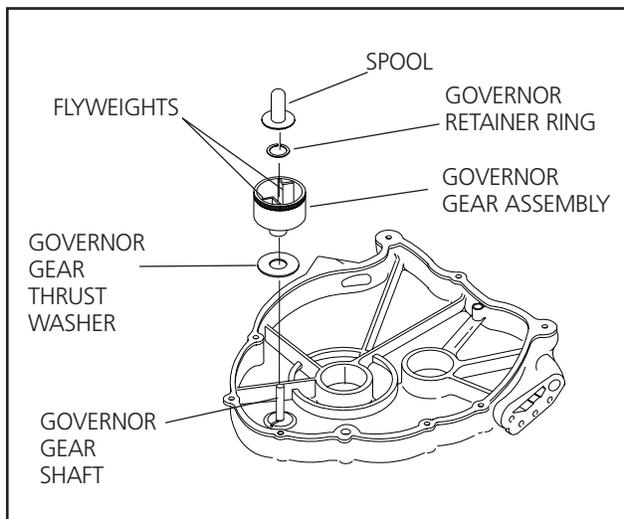

Figure 12.8 — Governor Assembly
1. Apply engine oil to the governor gear shaft (Figure 12.8).